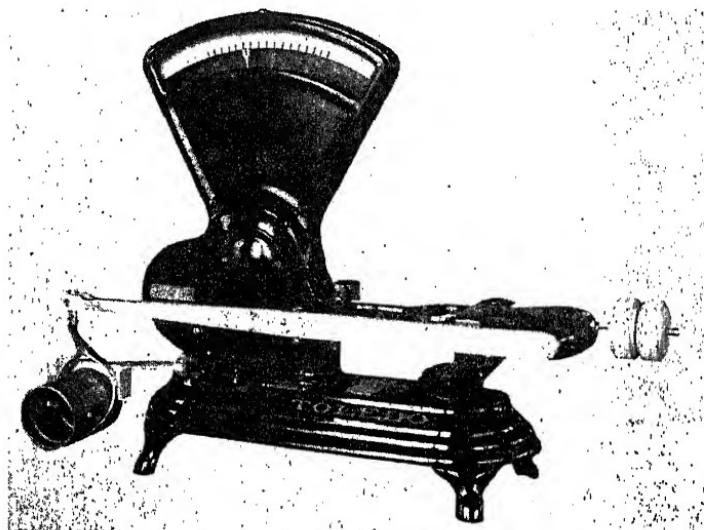

Fig. 45. Pistons Must Be Weighed or Balanced Accurately to Prevent Vibration
**Balancing Pistons.** Motor car manufacturers have long since recognized the need of exact balance of reciprocating parts because it reduces vibration. This means the rod and piston assemblies must have exactly the same weight. It is not only essential that the assemblies have the same weight, it is also essential that the independent parts of the assembly weigh exactly the same. For this reason pistons installed should be carefully checked, Fig. 45, so that there will not be more than the slightest fraction of an ounce variation in the weights. If it is found that a new piston